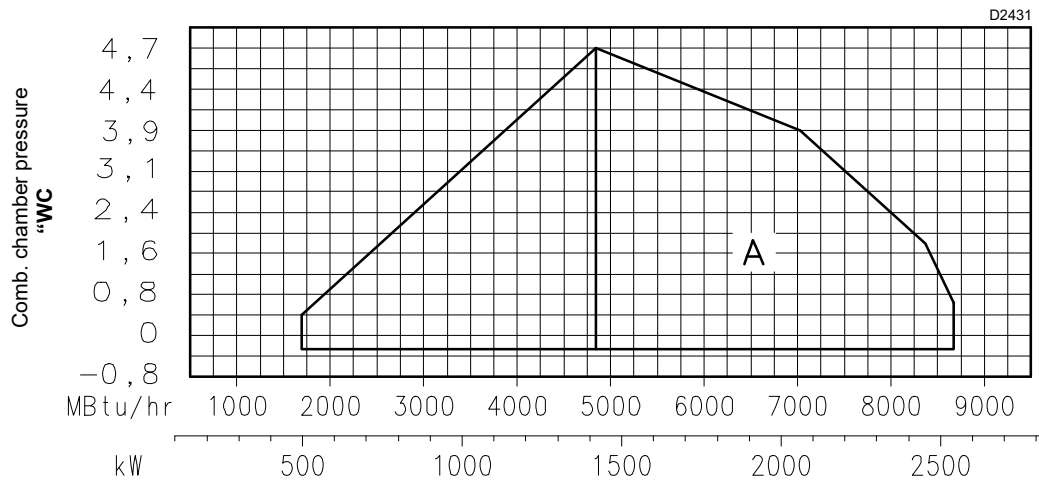

Fig. 2
- **MAXIMUM OUTPUT** must be selected in area A (Fig. 2).
- **MINIMUM OUTPUT** which must not be lower than the minimum limit in the diagram (Fig. 2).